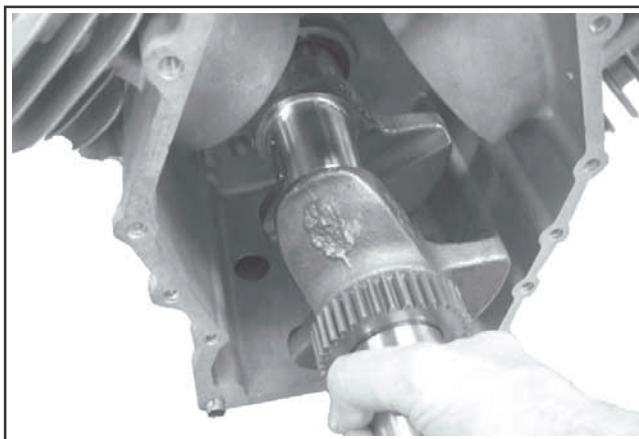

Figure 10-16. Installing Crankshaft.
1. Carefully slide the flywheel end of the crankshaft through the main bearing in the crankcase. See Figure 10-16.